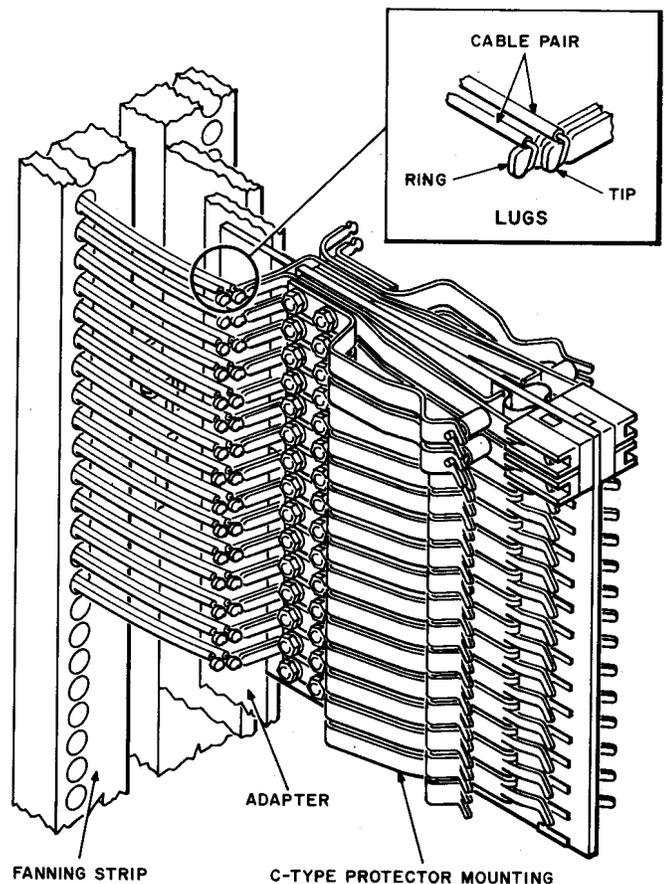

Fig. 1—C-Type Protector Mounting
2.01 The C-type protector mounting is shown in Fig. 1.
2.07 Fig. 1 through 8 show the makeup of the usual types of B-type frame protector